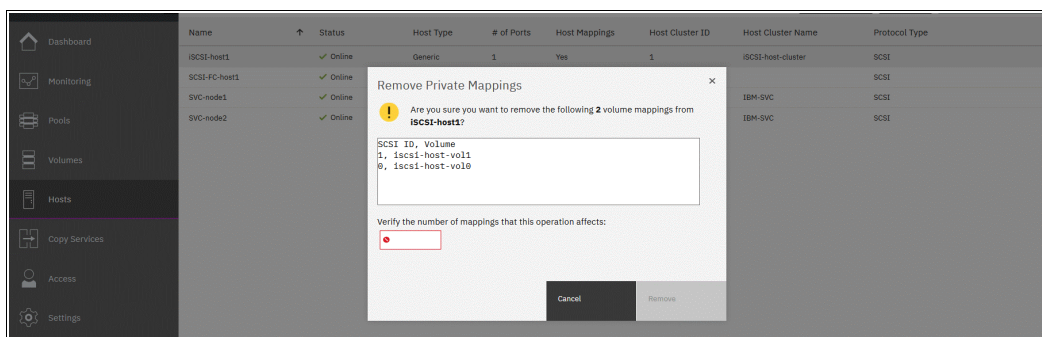

Figure 7-52 Confirming the number of mappings to be removed
3. In the next window, confirm this action by entering the number of volume mappings to be removed (see Figure 7-52) and click **Remove**.